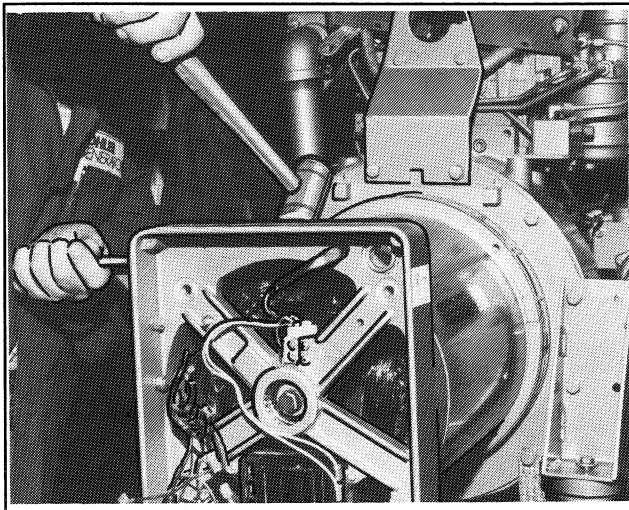

Figure 8-8. Removing End Bracket
14. Remove end bracket by bumping with a soft rubber mallet. See Figure 8-8.